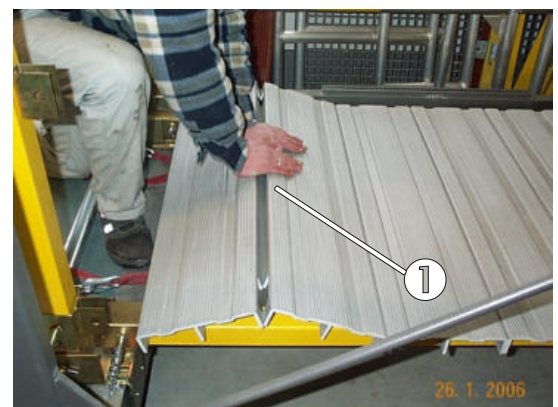

Fig. 35: Lay the last panels on the bottom platform
The last and last but one panel are slightly tipped up against each other and then pressed downwards. The resistance should be slight. If the resistance is too great, the belts must be slightly loosened so that the panels can be pushed down. The belts should be tightened again afterwards (fig. 35/pos. 1).